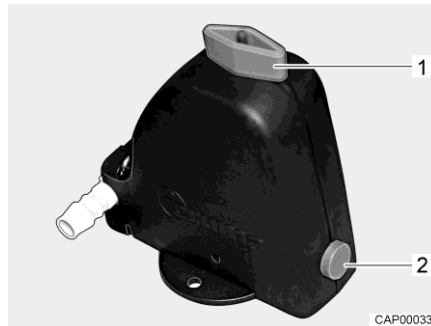
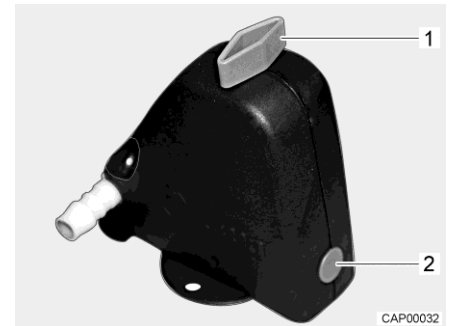

Fig. 88 Safety/drainage valve open
Fig. 89 Safety/drainage valve closed
- Close the safety/drainage valve. Turn the knob (Fig. 88,1) perpendicular to the safety/drainage valve and push the push button (Fig. 88,2) in. The closed safety/drainage valve is shown in Fig. 89. If the temperature is below 6 °C, the safety/drainage valve cannot be closed.